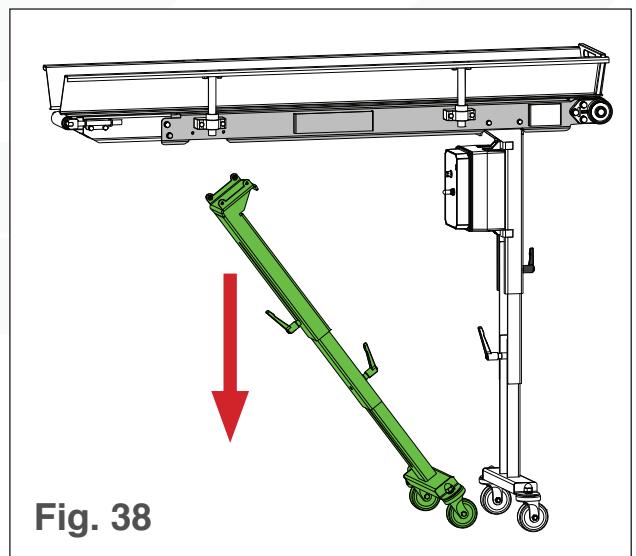

Fig. 38
4. Remove the leg assembly from the conveyor bed (see Fig. 38).